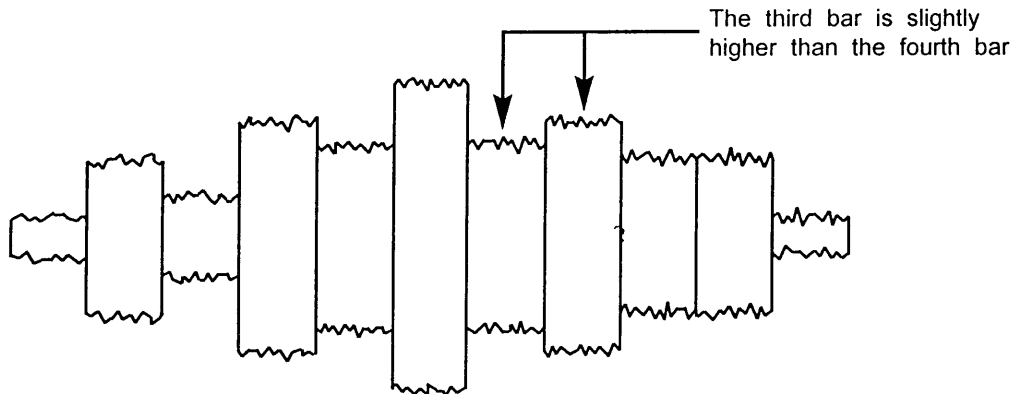

Fig.14
3. Turn T305 to obtain waveform as Fig.14.